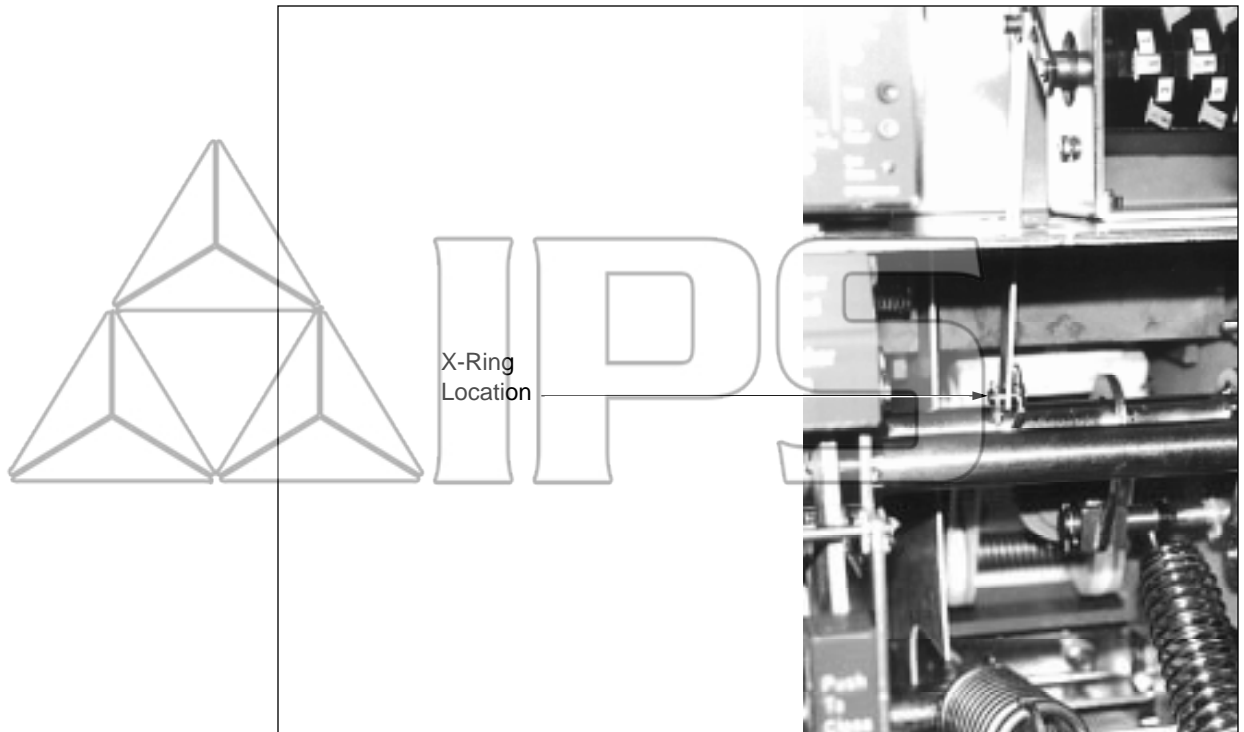

Figure 6: Auxiliary switch linkage arm
4. Attach the linkage arm to the pin located on the lever of the pole shaft. Secure the linkage to the pin using the x-ring provided. See Figure 6.